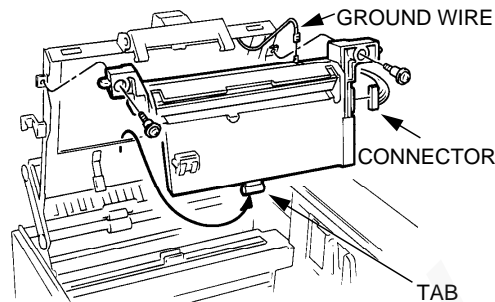

Figure 1. Laser
5. Disconnect the connector at the laser (figure 1).
7. Remove the two screws retaining the laser to the chassis (figure 1).